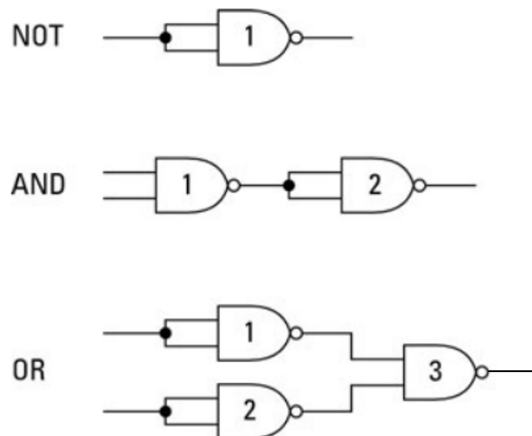

Figure 2 – NAND Gate Equivalent Circuits
2.2. Using the NAND gate equivalent circuits from Figure 2 and redraw the logic diagram (from 2.1) using only NAND gates.